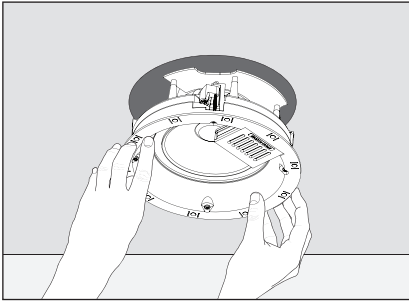

Fig. 5c
9. Gently push the assembly into the ceiling or wall hole (Figs. 5c & 6c).